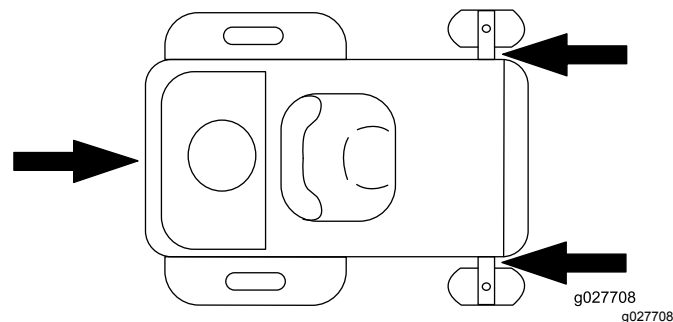

Figure 30
6. Tie down the machine near the front caster wheels and the rear bumper with straps, chains, cable, or ropes (Figure 30). Refer to local regulations for tie-down requirements.